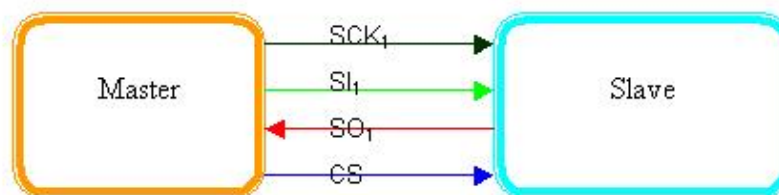

Figure 1: Single master, single slave SPI implementation
SPI specifies four signals: clock (SCK₁); master data output, slave data input (SI₁); master data input, slave data output (SO₁); and chip select (CS). Figure 1 shows these signals in a single-slave configuration. SCK₁ is generated by the master and input to all slaves. SI₁ carries data from master to slave. SO₁ carries data from slave back to master. A slave device is selected when the master asserts its CS signal.